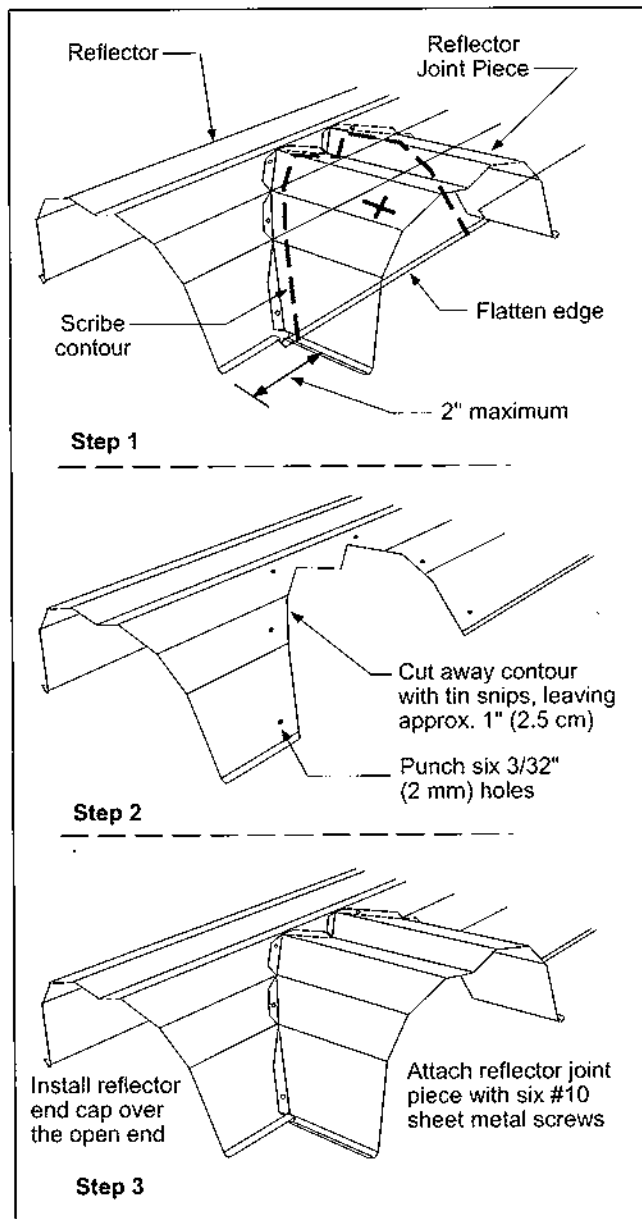

Figure 14. Reflector Joint Piece Installation
2. Cut away the reflector to clear the tube, leaving about one inch of material inside the scribed contour to attach the accessory joint. With an awl or other pointed tool, punch six 3/32" (2 mm) diameter holes in reflector in the positions shown in Figure 14.